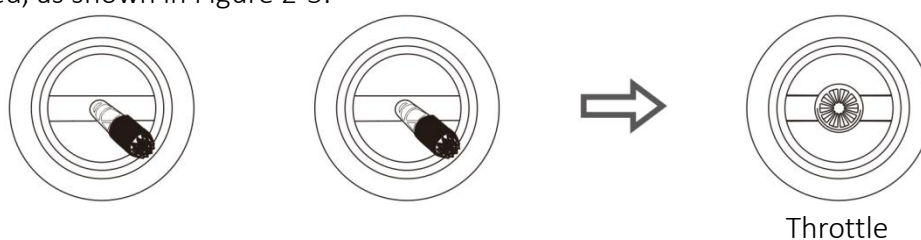

Figure 2-5 Unlock and Hover
Step 5: The drone remains at its current altitude and hovers after the throttle lever is centered, as shown in Figure 2-5.